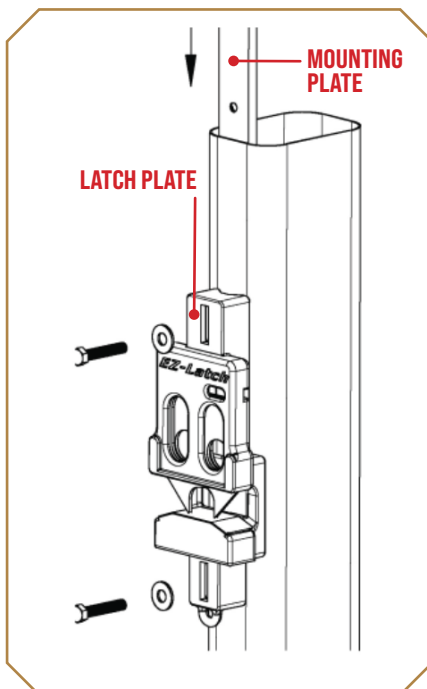

Figure 5
3. Position the mounting plate on the inside of the post. As a safety measure, you may tie a string through the hole to allow retrieval of the plate should you accidentally drop it. Mount the top screw and washer through the latch by putting the screw through the drilled holes and then through the mounting plate (Figure 5).